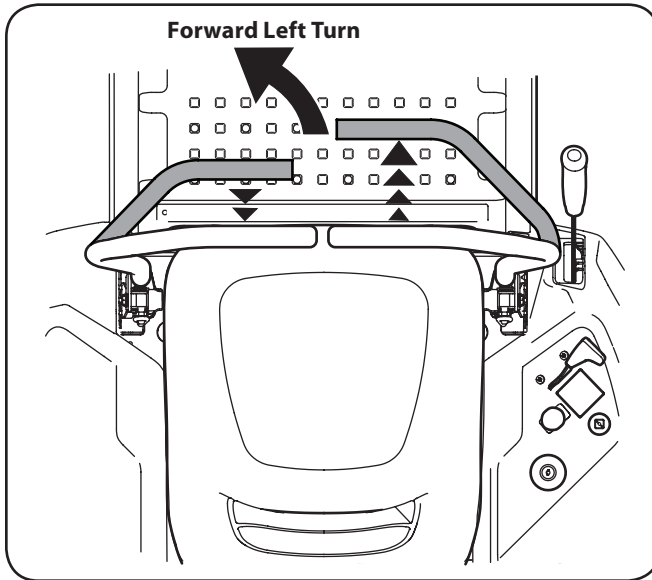

Figure 5-4
1. To turn to the left, move the left drive control lever rearward of the right lever. See Fig. 5-4.